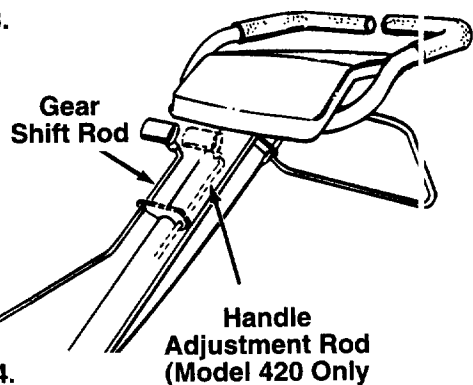

FIGURE 4.
1. Remove the T-handle, nut, hairpin clip, flat washer and rubber washer from the end of the gear shift rod. Slide the rod up through the bracket on the front of the handle assembly (use the right hand hole for Model 420). See figure 4.
1. Remove the T-handle, nut, hairpin clip, flat washer and rubber washer from the end of the handle adjustment rod. Slide the rod up through the left side of the bracket on the front of the handle assembly. Refer to figure 4.